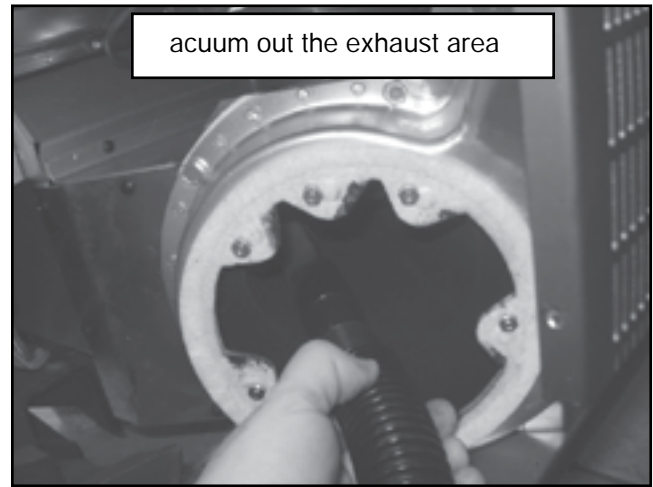

Figure 34.3
4. Vacuum out the exhaust area. **Figure 34.3.**